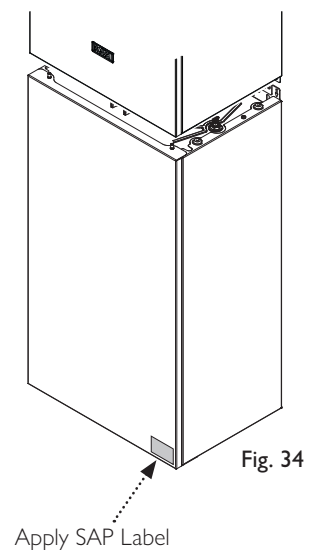

Fig. 34
1. Apply the SAP label to the boiler (Fig. 34) and continue with the installation and commissioning procedure.